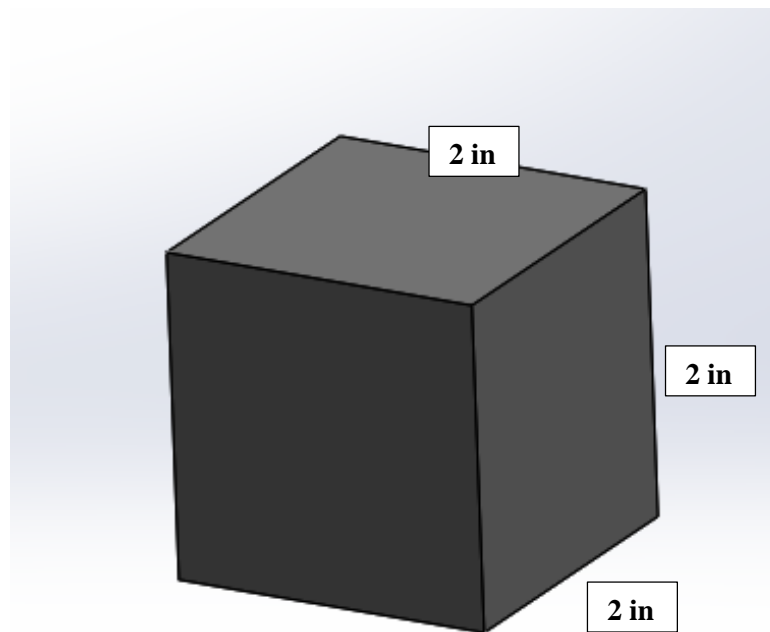

Figure 01
- **The shape and material of payload can be selected by the team that suit their design while the dimensions should not be less the 2x2x2 inches (the payload doesn't need to be in cubic structure, it can be of any other shape but it should have dimensions greater than 2x2x2 inches in diameter or lengths) .Refer to figure: 01 for Minimum payload dimensions requirement.**